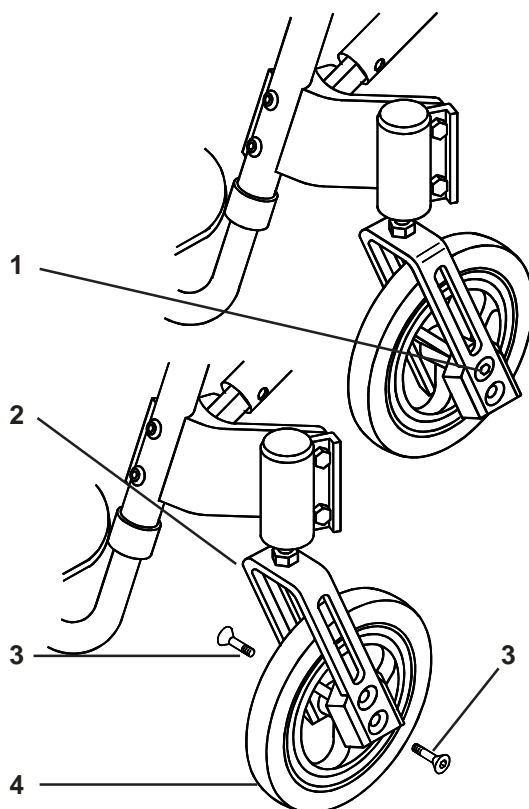

Fig. 39
To adjust the height of the front of the seat use the top axle hole (1) in the castor fork (2), as shown in Fig. 39. Remove the two axle retaining screws (3), using a 4mm Allen key, from the bottom hole, and align the axle/wheel (4) with the top holes in the castor fork, fit the axle retaining screws in the top holes and tighten to 27Nm torque. To adjust the height of the rear of the seat, the position the rear axle must be changed. See axle details on page 27.